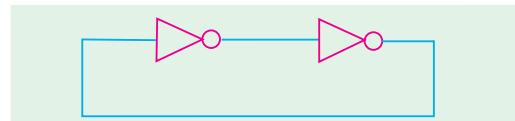

Fig. 65.42
20. The digital circuit using two inverters shown in Fig. 65.42 will act as